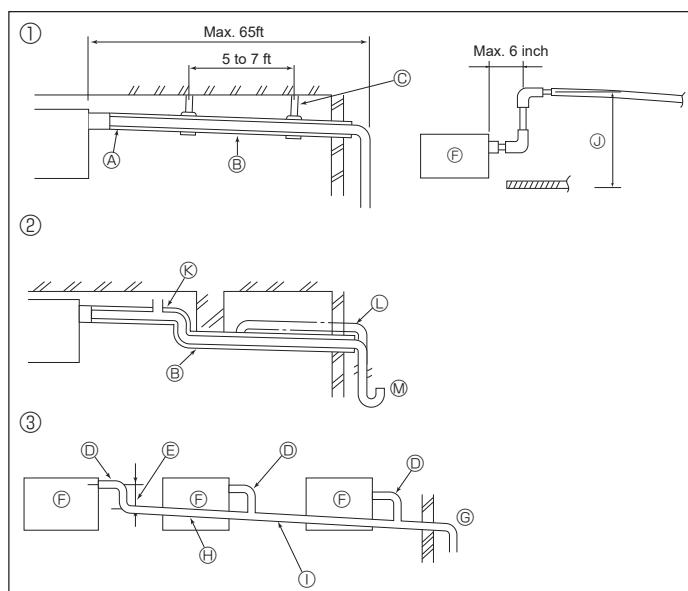

Fig. 5-1
5.1. Drainage piping work (Fig. 5-1)
① Correct piping
② Wrong piping